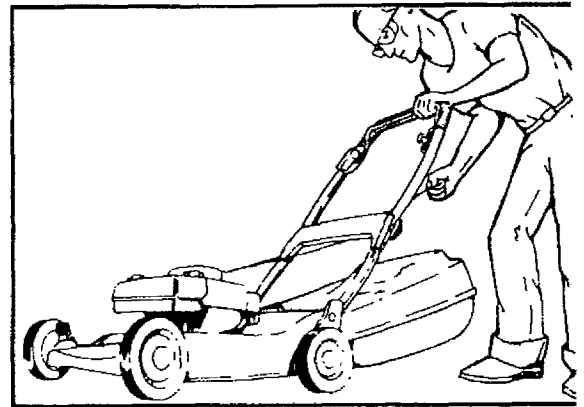

FIG. 17
5. Position yourself as shown in Fig. 17.